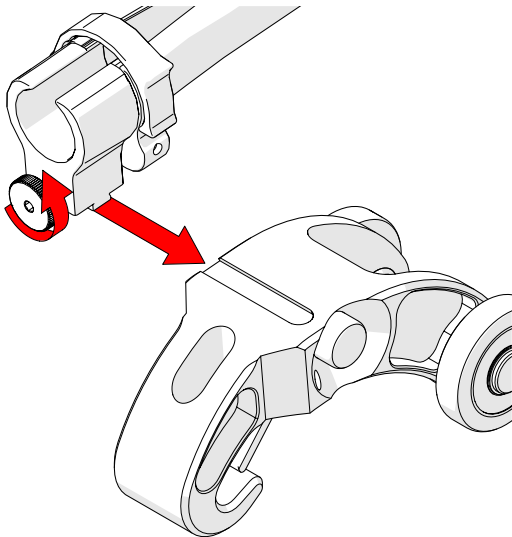

Fig. 176 - Loosen and slide on
1. Loosen the knob on the cable management dovetail mount. Slide the mount onto the dovetail link (Fig. 176).